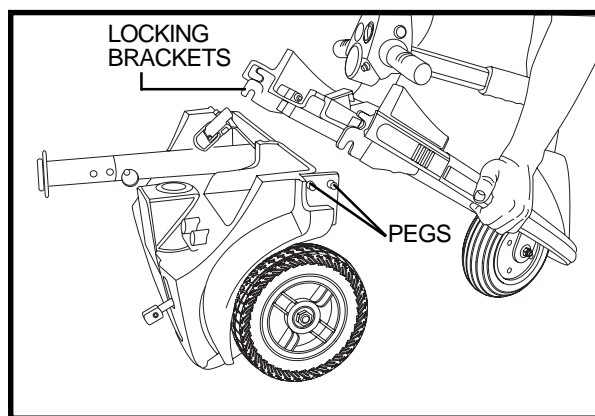

Figure 19. Frame Separation
2. Lift the front section up until the rear pegs are no longer in the locking brackets. See figure 19.
1. Position the front and rear sections of your scooter. See figure 19.